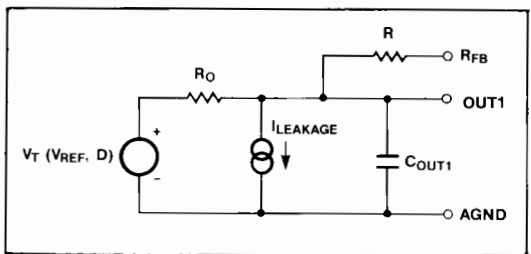

Figure 2. MX7548 Equivalent Analog Output Circuit
Figure 2 shows the equivalent circuits for the MX7548 analog section. The  $I_{LEAKAGE}$  current sources represent junction and surface leakage currents. The equivalent output resistor of the DAC is  $R_o$ , which varies with digital input code from  $0.8R$  to  $2R$  (infinite at zero code), where  $R$  is typically 11k $\Omega$ . Capacitor  $C_{OUT1}$  represents the capacitances of the switches used in the R-2R ladder. When inputs are switched from low to high, the capacitance at OUT1 changes from about 40pF to 100pF. This capacitance is code-dependent and is a function of the number of ON switches that are connected to the output.  $V_T(V_{REF}, D)$  is the equivalent voltage source controlled by  $V_{REF}$  and the digital input code (D).